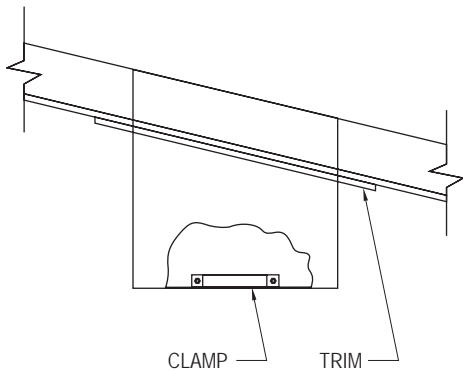

Figure 23
8. Place the Pipe Clamp, (which comes as a component of the Support Box) around the top of the hole in the bottom of the Support Box (*Figure 23*).